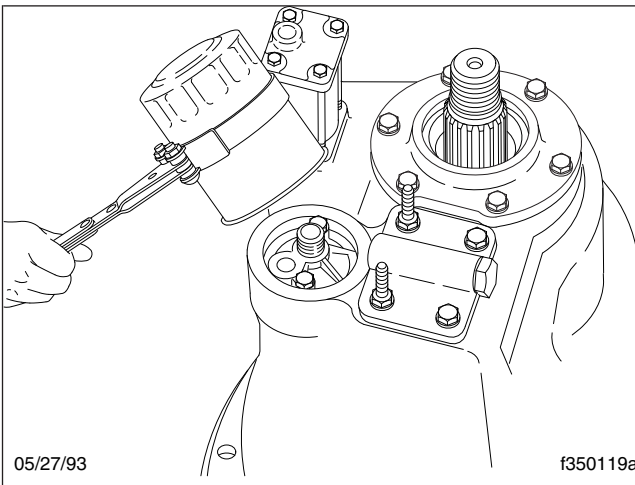

Fig. 3, Meritor Axle Oil Filter Removal
3. If equipped with an oil pump, remove the axle oil filter. Use a suitable filter strap wrench. See Fig. 3. Discard the old filter.